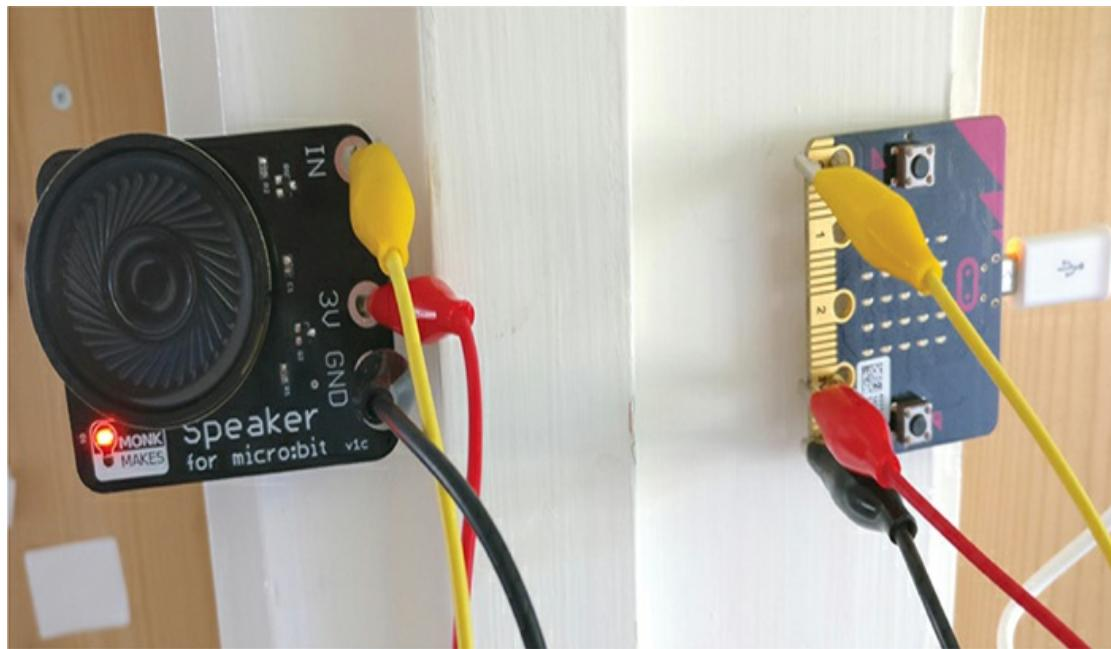

Figure 2-7: The musical doorbell project
This project (shown in Figure 2-7) is a variation on Experiment 1, except that instead of playing a single tone when a button is pressed, the doorbell will play tunes. We'll have button A play one tune and button B play another. You can see a short video of the project in
1. Connect the speaker to the micro:bit using the three alligator cables, as shown in Figure 2-7.